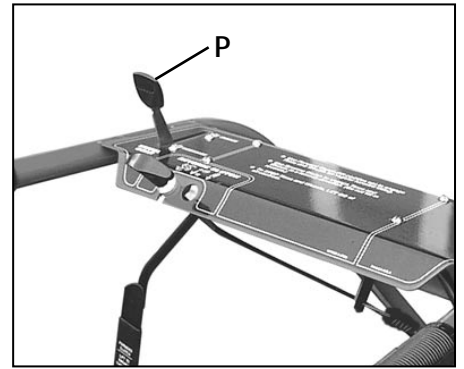

Figure 2-13: Attach Wheel Gear Lever.
1. Insert the Wheel Gear Lever (P, Figure 2-13) up through the slot in the control panel that is labeled "WHEEL GEAR."